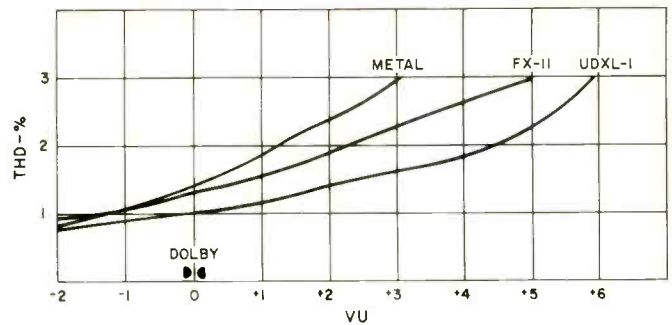
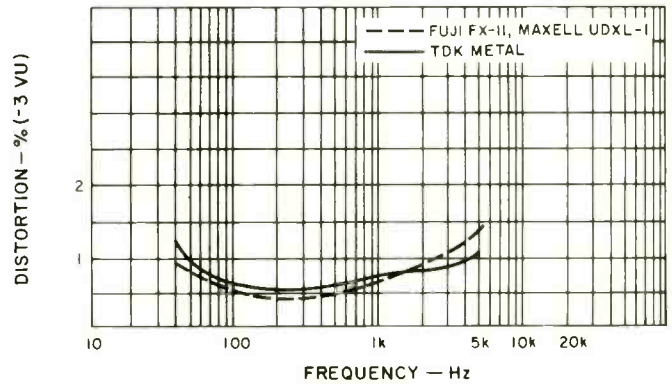

Fig. 5 — Distortion and headroom at 1 kHz.
Fig. 6 — Distortion vs. frequency.
Figure 5 shows the distortion and headroom for all three tapes at 1 kHz, and Fig. 6 shows distortion vs. frequency, measured at a level of -3 dB (ref. 1 kHz). Signal to noise (ref. 3 percent THD) measured 58 dB for the Maxell UDXL-I and 57.5 dB for the FX-II and TDK metal. Switching in the Dolby system increased these results by about 9 dB. Input required for 0 VU was 85 mV line and 0.3 mV for microphones, output then being between 480 and 590 mV. Maximum signal-handling capacity at the microphone inputs was 40 mV. The Dolby system had an error of less than 1.5 dB down to -40 dB, and the MPX filter introduced an attenuation of 30 dB at 19 kHz with a loss of 0.75 dB at 15 kHz and 12 dB at 18 kHz. The limiter had a fast response time, cutting sharply at levels above 0 VU. Erase efficiency was better than 70 dB, as specified. Wow and flutter measured 0.04 percent (DIN 45-507), and speed was exactly 1 7/8 ips. The fast-wind time for a C-90 cassette was 90 seconds.